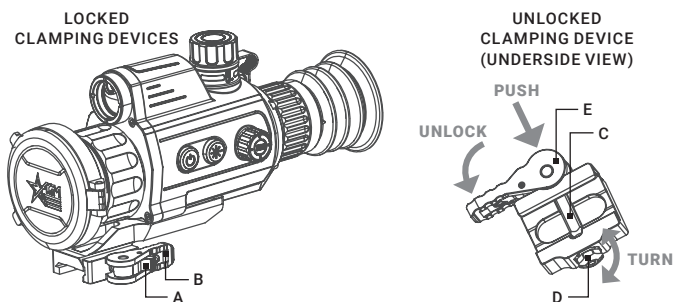

FIGURE 2-6. MOUNT
To install the Varmint LRF on a Picatinny/Weaver rail, perform the following (Figure 2-6):
2. With the clamping device unlocked (as shown in Figure 2-6), push the cam (E) towards the arrow, which will cause the nut (D) to slide out of its hole.
3. To tighten/ loosen the clamping device, push down on the cam (E) and turn the nut (D) CW/ CCW respectively, in one-two increments (see note below). Much like when the cam (E) is released, backward-moving spring will cause the nut (D) to slide back into its hole.